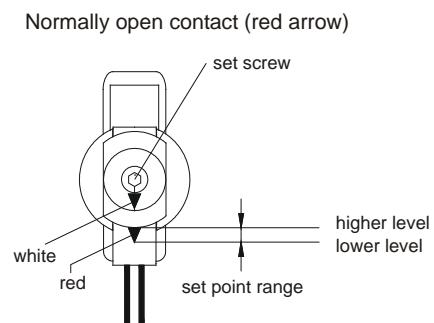
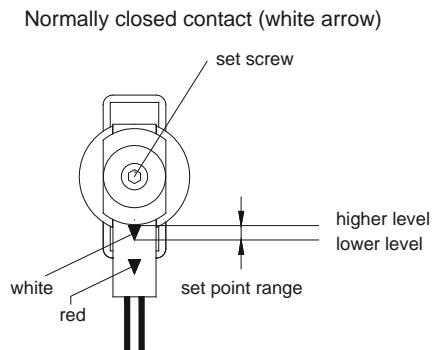

Fig. 15
Fig. 16
- ↳ Subsequently loosen the locking screw (hexagon socket screw size 2.5 for the brass and stainless steel version and cheese head screw for the plastic version) and move the switching unit until the red arrow for the desired normally open contact (→ Fig. 15) or the white arrow for the normally closed contact (→ Fig. 16) is visible at the entry of the switching unit guide.